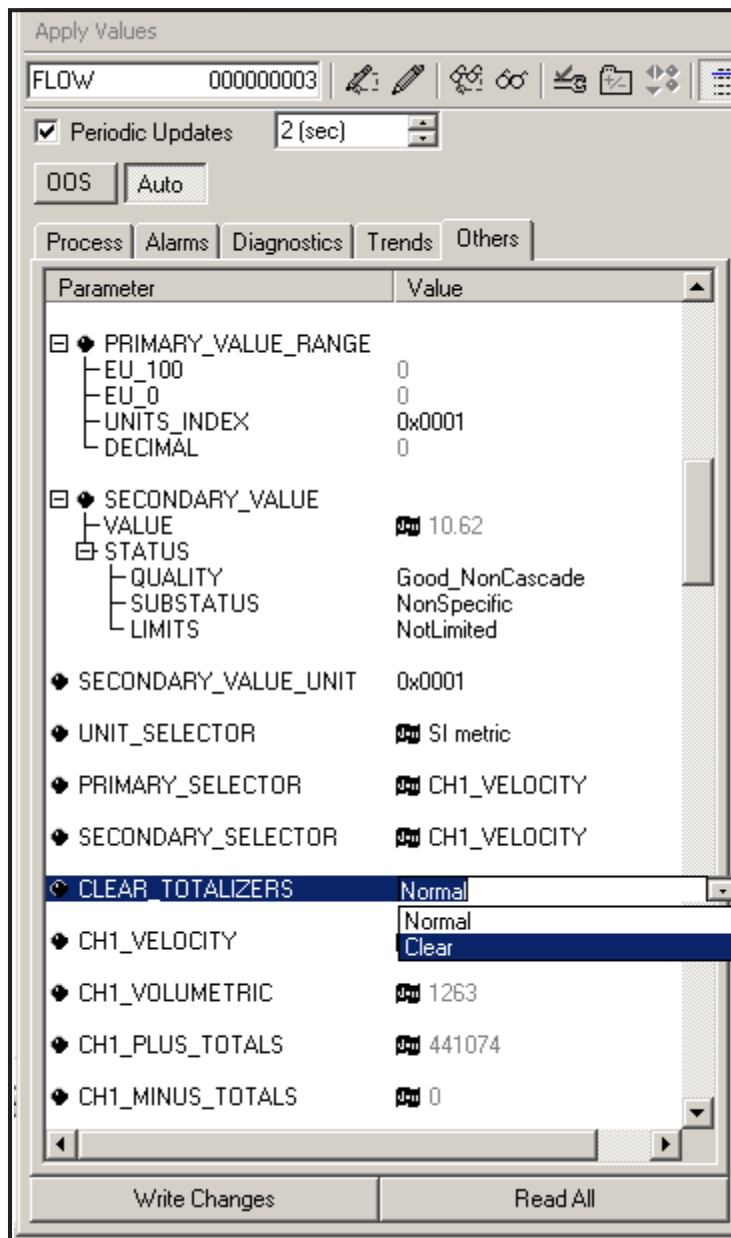

Figure 59: Clear Totalizers Drop Down List
3. Select **Clear** from the drop down list box (see Figure 59).